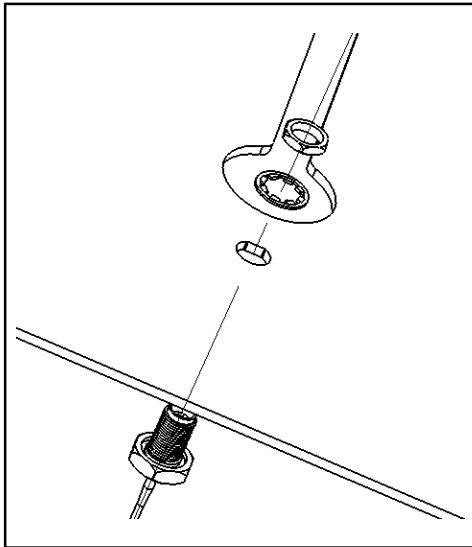
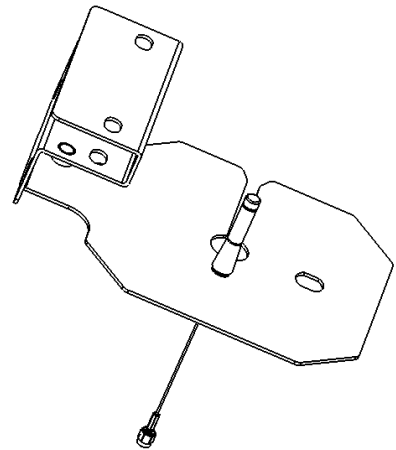

Figure 2.
Figure 1.
1. As shown in Figures 2&3. assemble jumper to bracket ,and then install small stick antenna as shown in Figure 1.